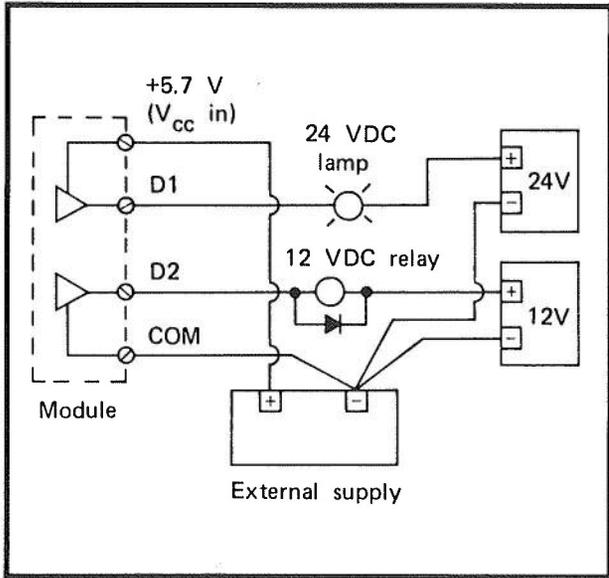

Figure 10 — Low-Voltage Lamp, Relay Connections
11. A typical connection diagram for low-voltage (5 to 30 VDC) lamps and relays is shown in Figure 10. Note that the DC common (-) terminal of the external power supply must be connected to the output device supply's DC common terminal. In this type of application, it is usual to select low/true logic so that the lamp or relay is energized when the output bit in the processor is energized (Logic "1"). (The contact sinks on this module.)
When driving an inductive load, some form of overvoltage protection must be provided for the module's output transistor. See Figure 10 where a diode is placed across the relay in a typical arrangement. Here the component suppresses the "opposite polarity" spike induced by the coil of the relay.